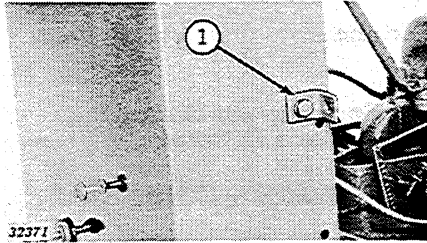

Figure 62
1. (Figure 62) Carefully uncrate engine and bolt clutch rod clip to air stack.